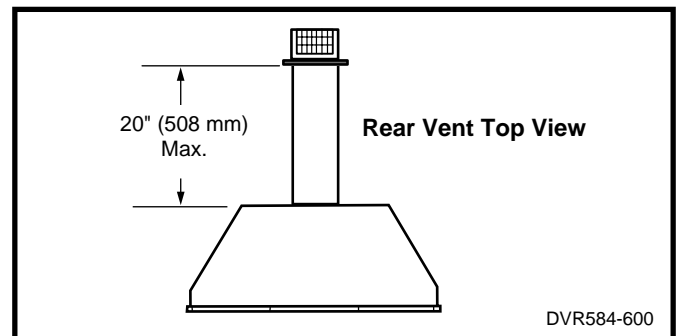

Fig. 19 Rear vent application, no elbows.
- The maximum horizontal distance between the rear of the appliance (or end of the transition elbow in a corner application) and the outside face of the rear wall is 20" (508mm). (Fig. 19, 20)